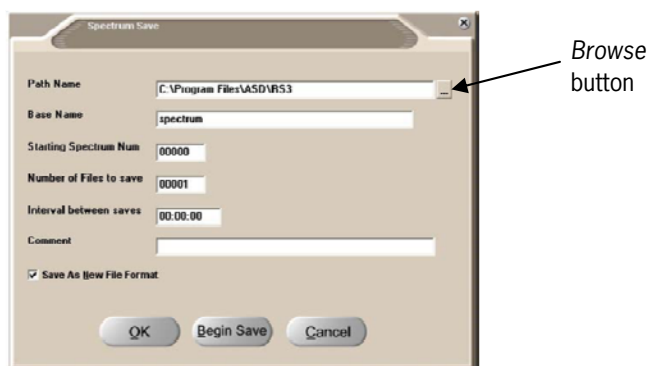

Figure 3-27: Spectrum Save settings
- Step 2 Enter the information in the *Spectrum Save* settings box (Figure 3-27).